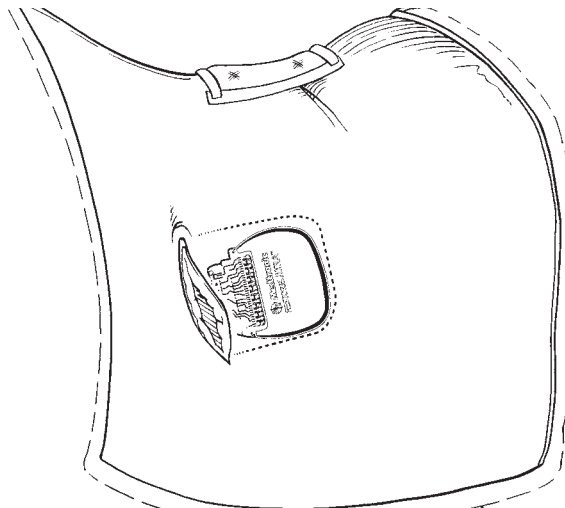

FIGURE 48
- 4 Making sure not to allow fluid into the connector block, verify the pocket size (FIGURE 48).